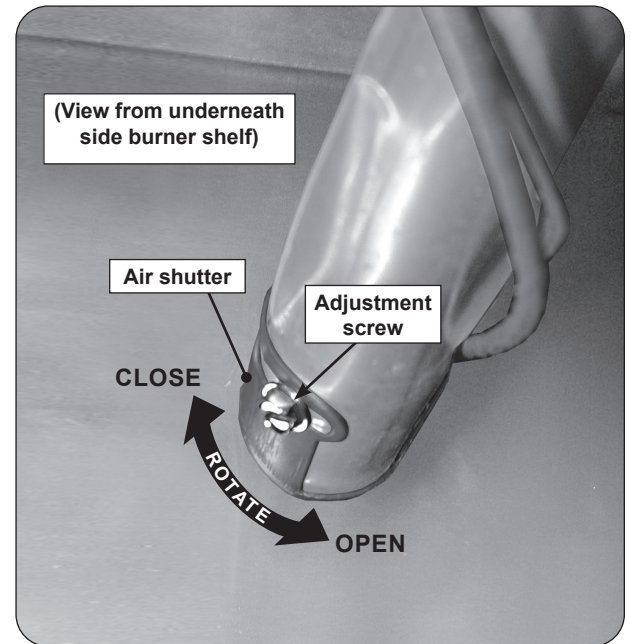

Fig. 55-1 Side burner air shutter adjustment detail
2. Loosen the adjustment screw with a flathead screwdriver, then carefully rotate the shutter to open or close it. See Fig. 55-1 for details.